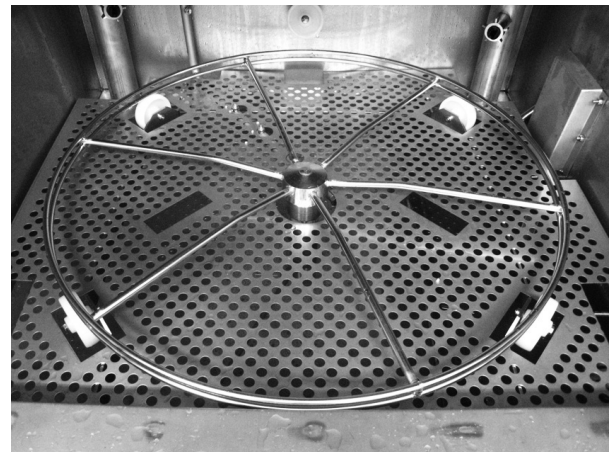

Figure 18: Basket wheel
3. Remove the basket then remove the basket wheel. (Figure 18 Basket wheel).